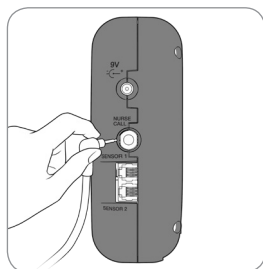

Fig. 14
1. Insert one end of cable into nurse call outlet on right side of alarm (Fig. 14). Use care not to plug into sensor outlet as damage to sensor outlet could occur.